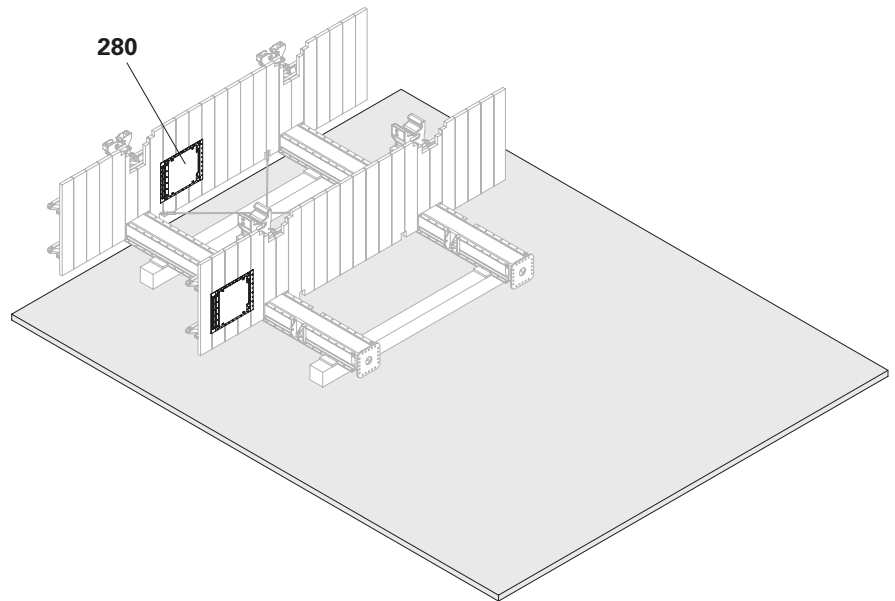

Fig. B4.16
13. Fit the hatch (**280**), see "Fitting the descent hatch" on page 61. (Fig. B4.16)